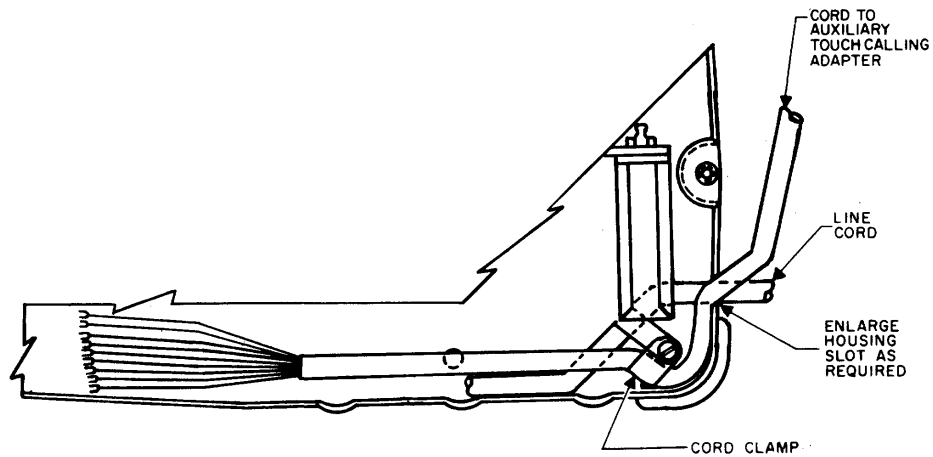
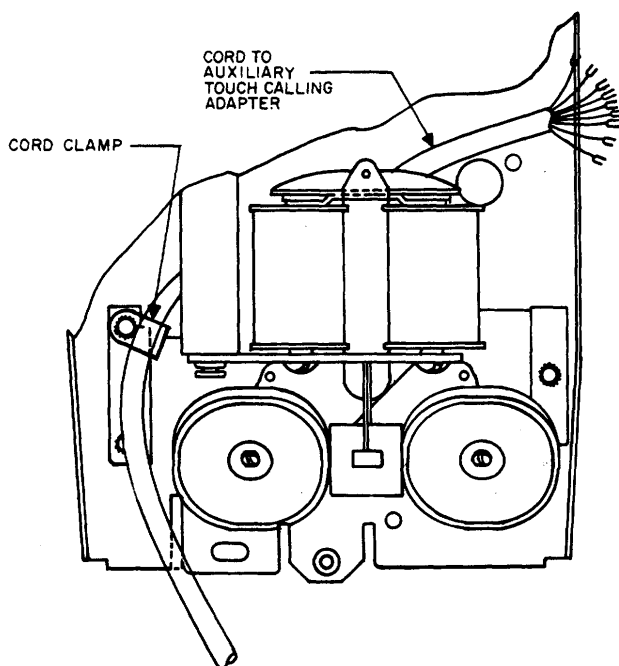

Figure 5. Routing and Securing Cord from Auxiliary Touch Calling Adapter to Type 80 Telephone.
Figure 8. Routing and Securing Cord from Auxiliary Touch Calling Adapter to Type 90M Telephone.
3.01 To permit entrance of the interconnecting cord, it may be necessary to establish or enlarge the cord entry slot in the telephone housing. A clamp is supplied with the adapter to secure the cord within the set if no other retention is provided. Figures 5 through 15 and 17 through 20
- Route and secure the adapter's cord on the Type 80 (Figure 5) or 90M (Figure 8) telephone.